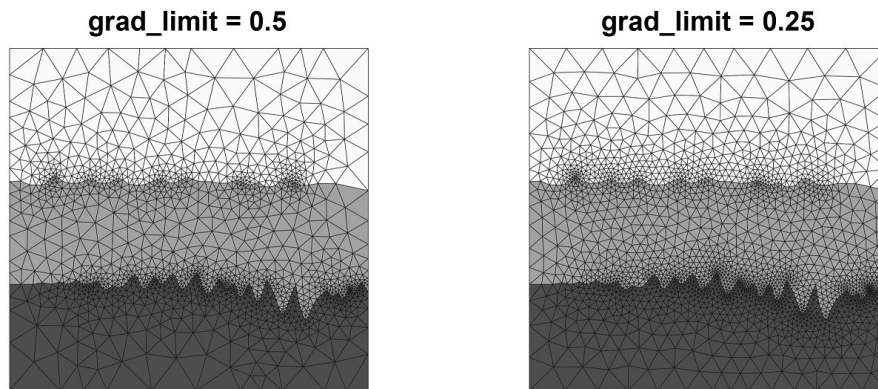

Figure 9: Effect of *Gradient-limit*
- *Gradient-limit*: A limit on the gradient of mesh-size function (Figure 9).⁵ Type: Float. Range: > 0 . Typical value: 0.15 - 0.4.